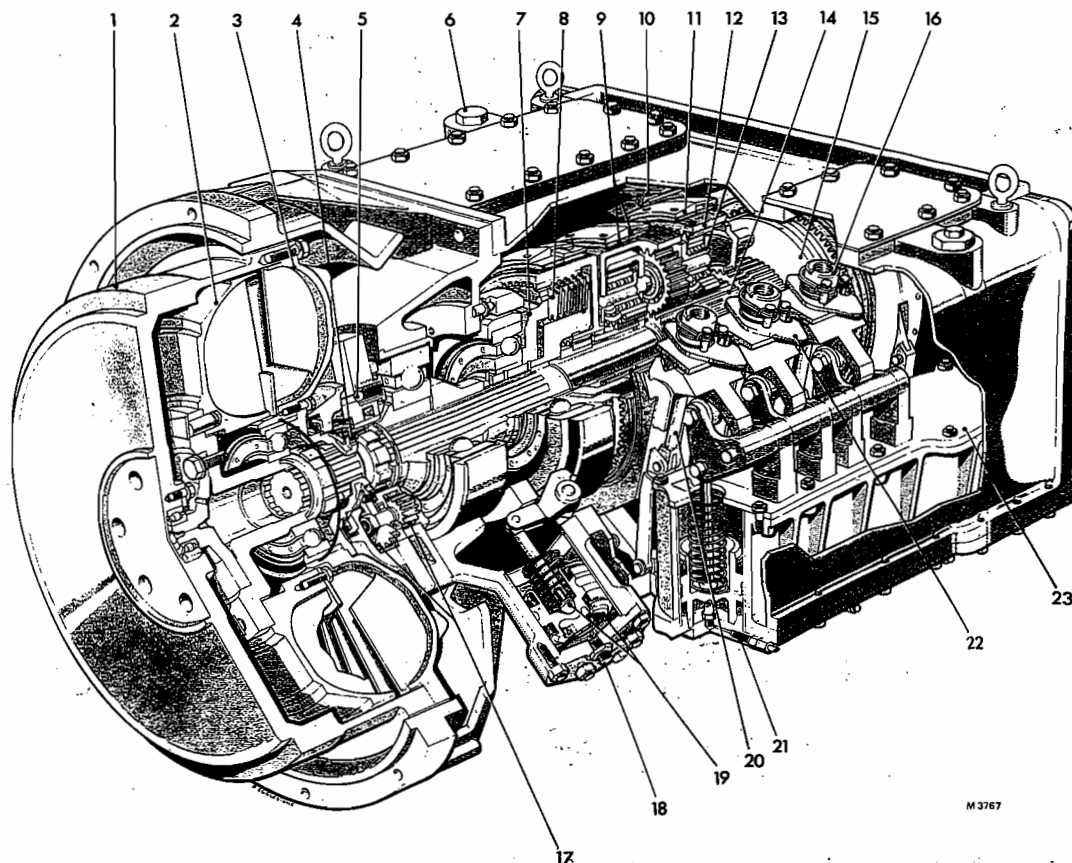

FIG. 2 CUT AWAY VIEW OF THE GEARBOX
The top speed clutch is operated by a piston acting in an external cylinder cast integral with the clutch housing, Fig. 2.
Air is admitted to the cylinder (18) Fig. 2, and forces up the piston and with it the piston rod which is linked to a lever which pivots about a pin. Acting on the trunnion ring the lever converts the pressure of the piston into thrust parallel to the input shaft and thus applies the plate clutch.